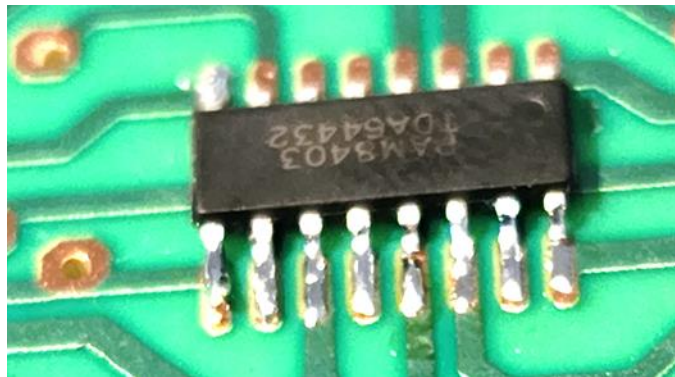

Fig 7. Carefully solder one side of the ICs legs to their PCB pads.
- Then carefully solder the remaining legs. *(Refer to Figures 7 & 8)*